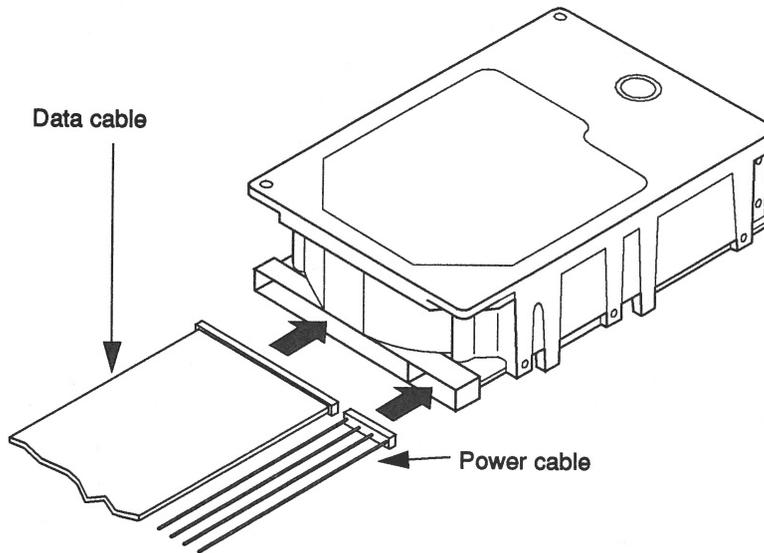

Figure 5-8 Connecting the Data Cable to the Drive
5. Connect the data cable leading to the hard drive. Refer to Figure 5-8.